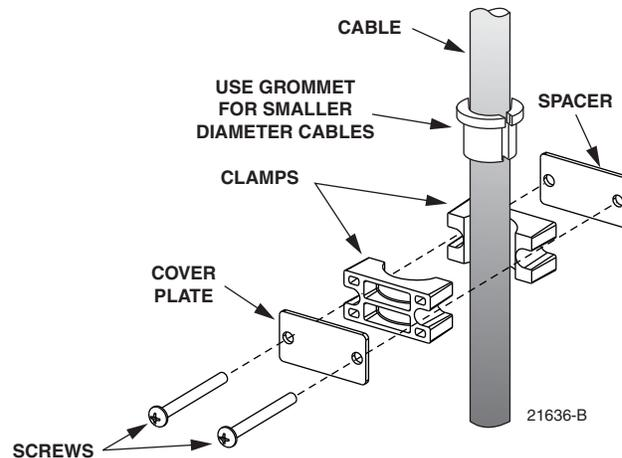

Figure 23. Cable Clamp Assembly
9. Assemble the two cable clamps (and grommets if required) on the cable as shown in Figure 23.